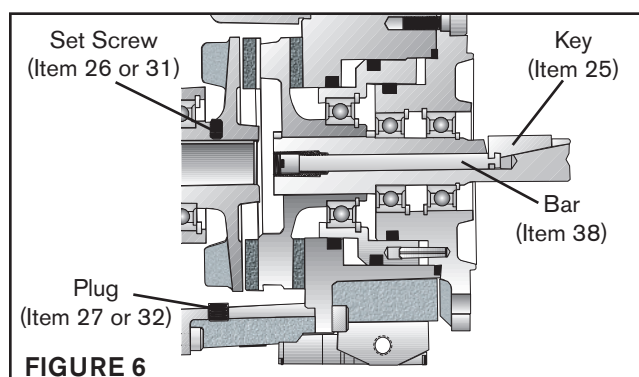

FIGURE 6
1. Remove the Plug (Item 27 or 32) and loosen the Set Screw (Item 26 or 31) securing the FMCBE to the motor or Input Unit (See Figure 6).